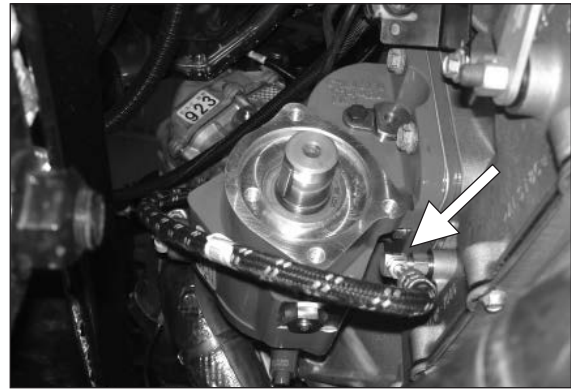

Figure 16
- The PTO fitting should be indexed at 90-degrees and the transmission fitting indexed at 45-degrees. Route the hose as shown in **(Fig. 16)**.